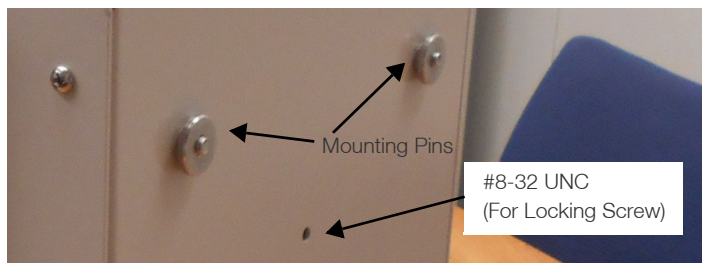

Figure 5. Locking wall mount
- Place Pretreatment system onto bracket by sliding the mounting pins into the wall bracket slots (refer **Figure 5**).
- Lock Pretreatment system into place by opening front door and locating the locking screw hole. Fasten #8-32 locking screw from Pretreatment system to the wall bracket (refer **Figure 5**).